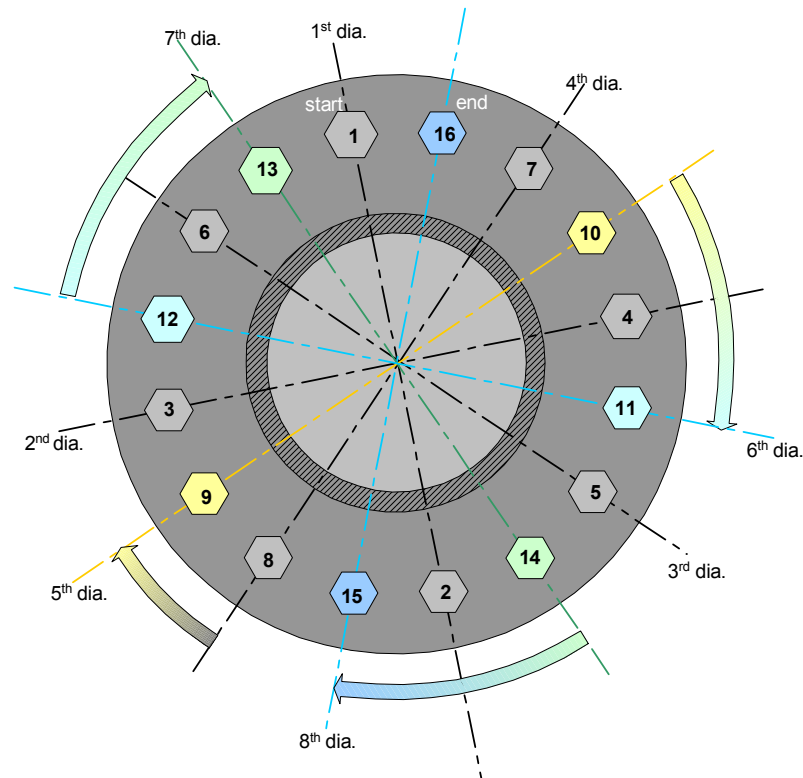

Figure 6.9: Tightening a Sixteen-stud Flange
- work systematically from one diameter to another; a possible sequence is shown in **Figure 6.9**